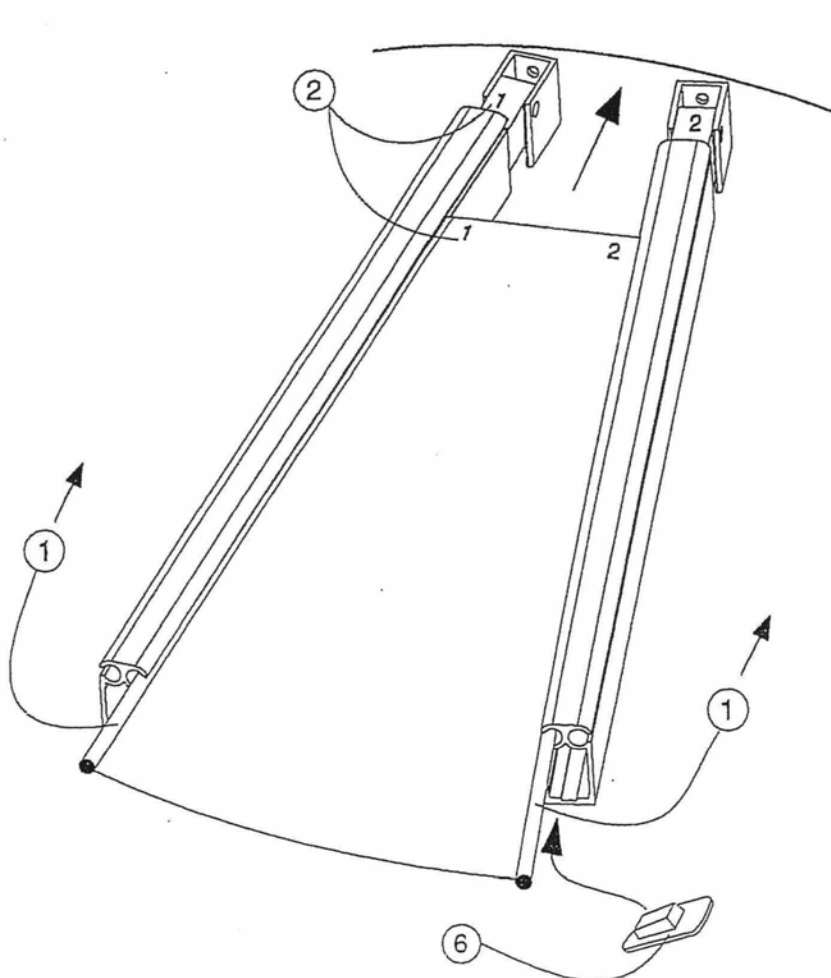

Fig. 7
- (Fig. 7) With the sunshade closed, insert the lengths of fabric from below, parallel on both sides, into the welt grooves on the roof struts and push up (1). In the case of square or rectangular sunshades, the number on the outside of the cloth must correspond with those on the roof struts (2).